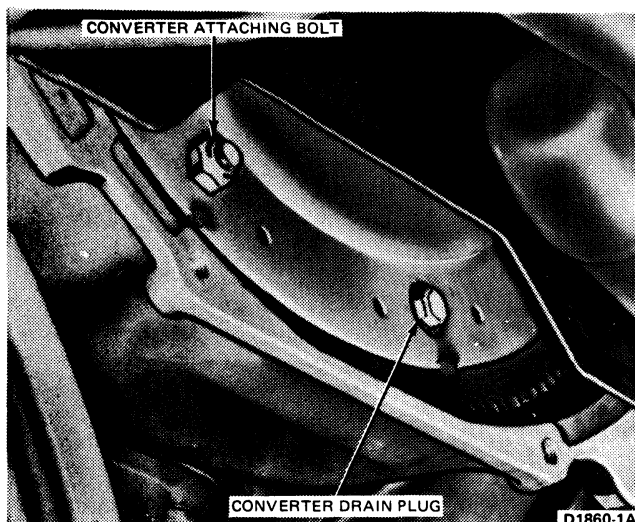

FIG. 6 Converter Drain Plug Location—Typical
5. With the wrench on the crankshaft pulley attaching bolt, turn the converter to gain access to the converter drain plug and remove the plug (Fig. 6). Place a drain pan under the converter to catch the fluid. With fluid drained, reinstall the plug.